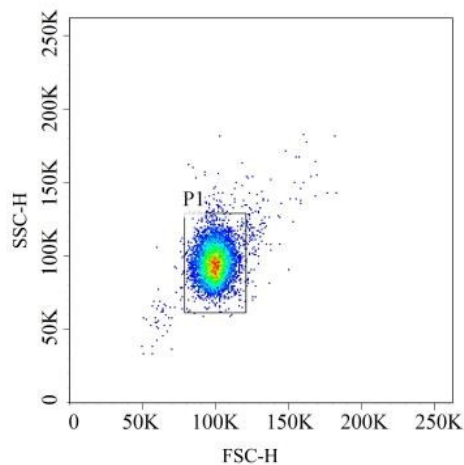

Figure 1. FSC-H vs SSC-H scatter plot with rectangular P1 gate identifying the cytokine bead population.
- 2) Create an FSC-H / SSC-H scatter plot. Adjust FSC and SSC to identify the cytokine bead population using a rectangular P1 gate (Figure 1).